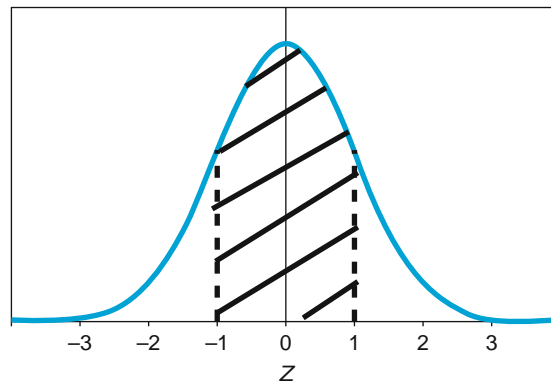

FIGURE 15.16 Normal Error Curve
in Figure 15.16 whose equation is $Frequency = \frac{Exp(-0.5Z^2)}{\sigma\sqrt{2\pi}}$.
This curve has the general characteristics of Figure 15.16, but why do we go to these lengths to plot it in this form? The reason is that with this coordinate system the area under this curve is 1. This means that there is 100% probability that the measurement will be somewhere under the curve if we were to go out to $Z = \pm\infty$. In this standardized form the abscissa can be thought of as the number of standard deviations corresponding to each point. The utility of this normalized coordinate is that:
- For $Z = \pm 1$ standard deviations ($\pm 1\sigma$), the area under the normal error curve, as shown in Figure 15.16, contains 68% of the data